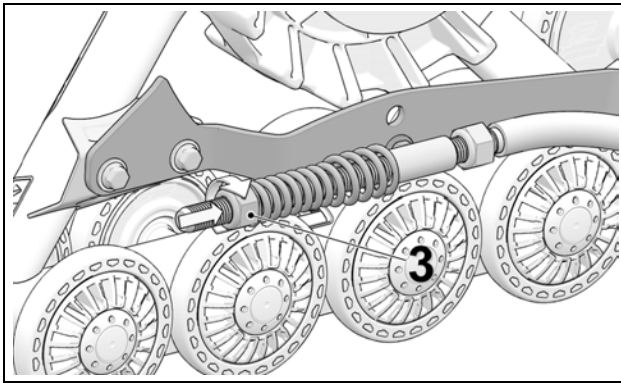

Figure 12
- Turn nut (3) until it comes in contact with spring, then compress spring by rotating nut 1 1/2 turn. See Figure 12.